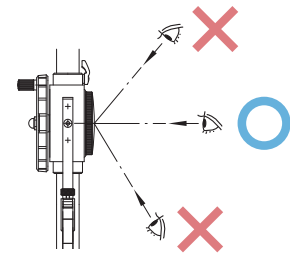

Fig. 2
1. Read the dial graduations from directly above to avoid parallax error. (**Fig. 2**)